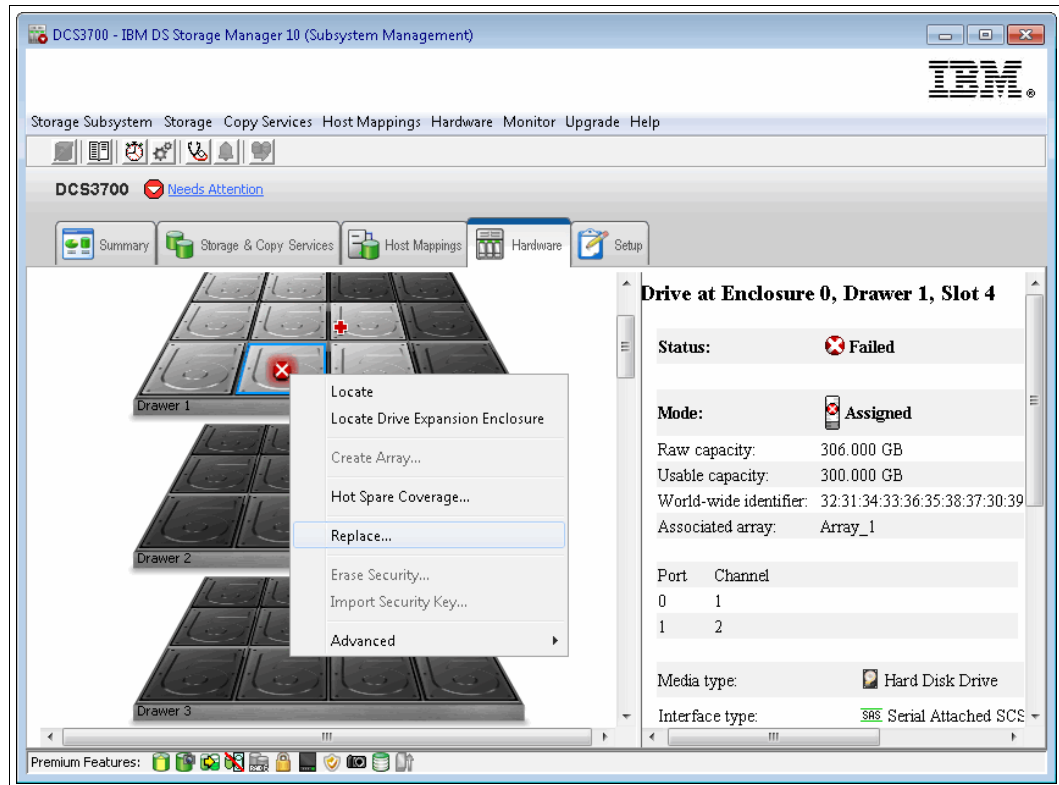

Figure 9-16 Replace Drives option
1. Select the failed disk drive or missing disk drive icon in the Physical pane, right-click it, and select **Replace Drives** in the menu that opens (Figure 9-16).